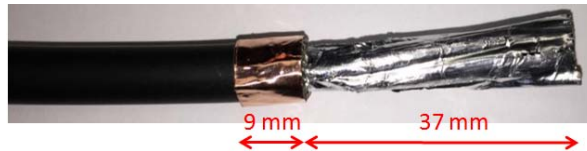

Figure 12
- Attach copper tape (1.5 turn) (Fig 12)